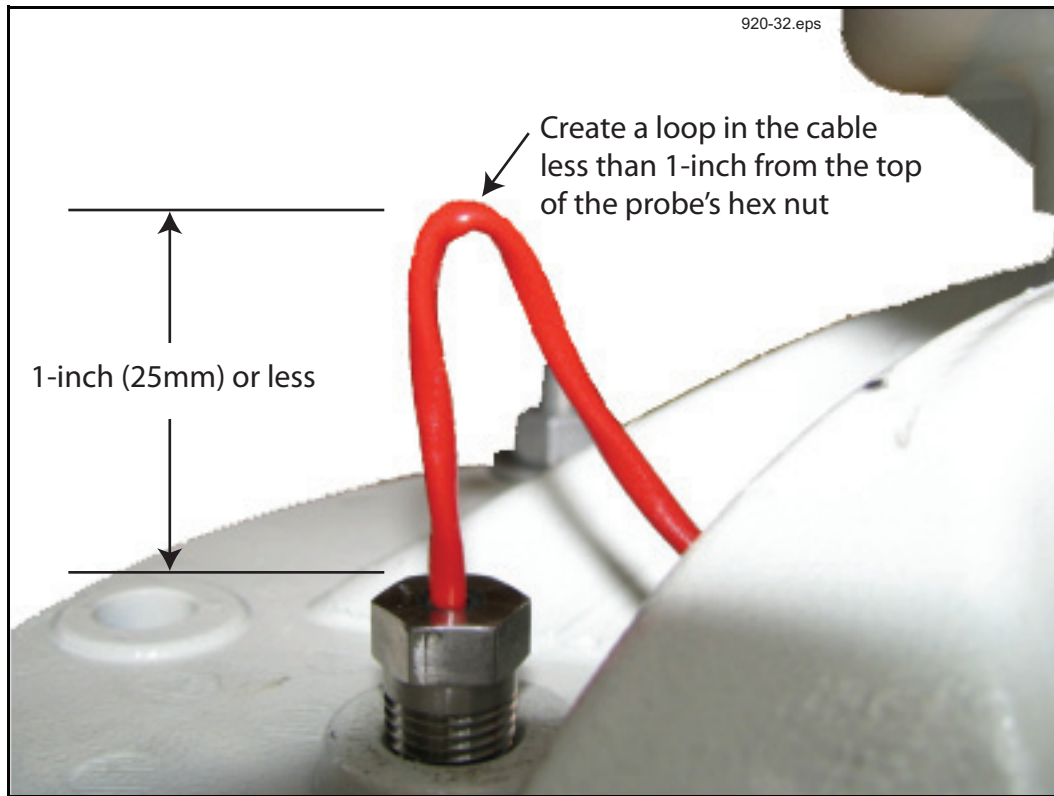

Figure 4. Preparing the thermal probe cable for the protective cover
1. Make a small bend in the thermal probe cable no more than one inch above the thermal probe's hex nut (see Figure 4).